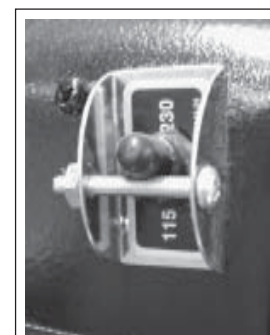

Figure 8
- Identify the electrical power requirements of the saw. The voltage requirements of the motor can be found on the motor data plate. For dual voltage models, be sure the voltage selector switch position correctly matches the incoming power source and that it is locked into the selected voltage position with the locking bolt. (*Figure 8*)
**REMINDER:** On models equipped with a voltage selector switch, verify switch is set at the operating voltage available at the job site and the locking bolt is in place. Motor burnout due to use of improper voltage will void the warranty on the motor. (See *Figure 8*)